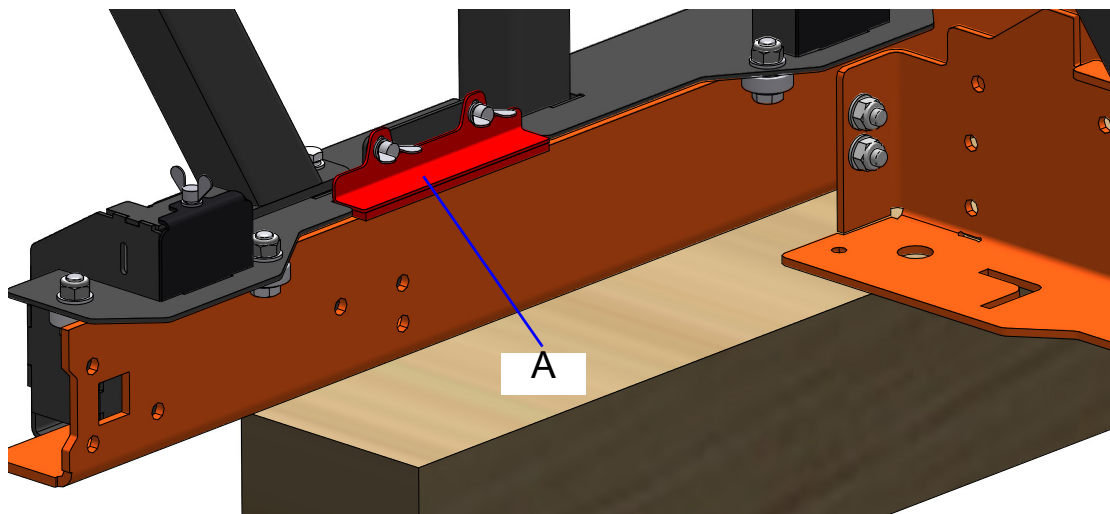

FIG. 4-1
Make sure the track wipers (A) touch the track surfaces and are free of sawdust buildup. See figure 4-1.
See figure 4-1.